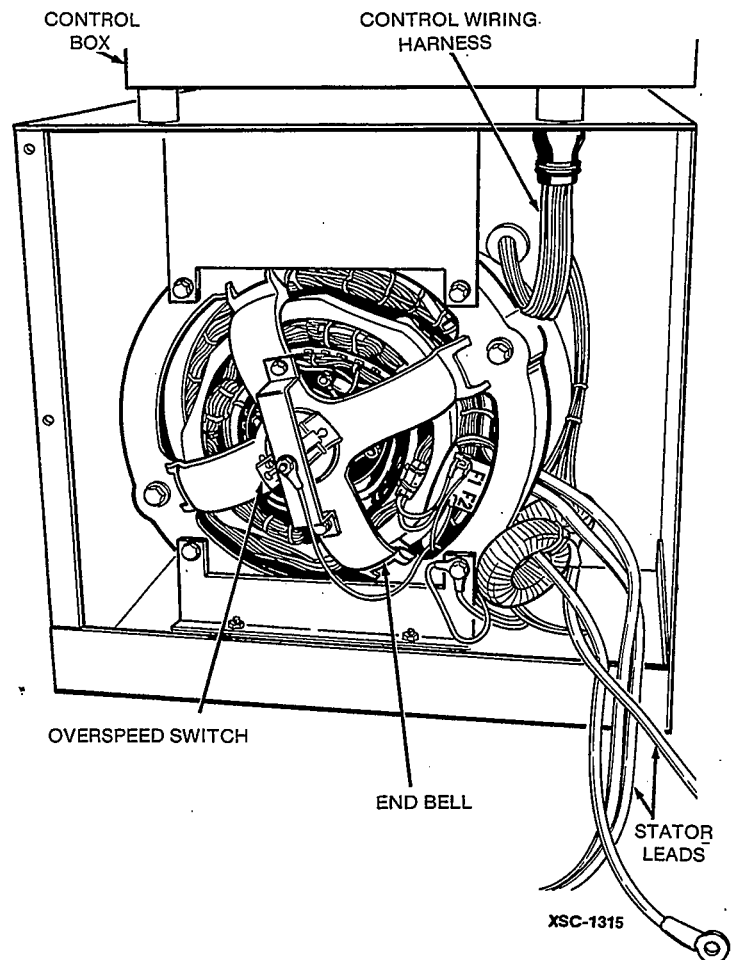

FIGURE 8. OUTPUT BOX AND CONTROL
2. Remove the generator output box cover (see Figure 8) and disconnect the stator lead wires from the load wires.